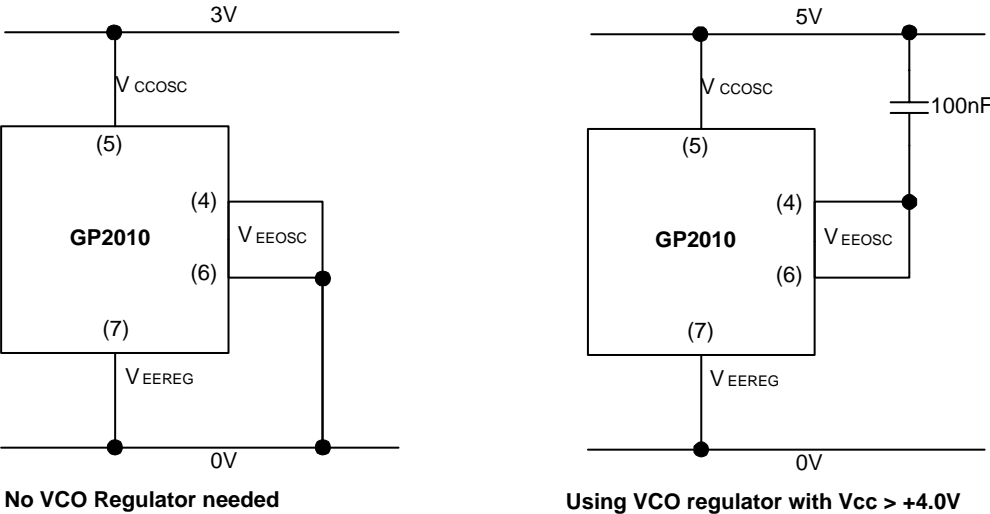

Fig. 7 VCO power-supply connections
- 1). Both pins 4 & 6 (V_{EE} (OSC)) are connected internally. If the VCO regulator is used ($V_{CC} = +5.00V$ nominal) then both pins 4 & 6 must be left floating, with either pin de-coupled to V_{CC} (OSC) with a 100nF capacitor. In this configuration, the dc output level of the regulator can be monitored from V_{EE} (OSC), with respect to V_{CC} (OSC) - NOT 0V (V_{EE}/GND). For operation at $V_{CC} < +4.0V$, the VCO regulator cannot be used, and both V_{EE} (OSC) pins must be shorted to V_{EE} (REG) (Pin 7) - see Fig. 7.